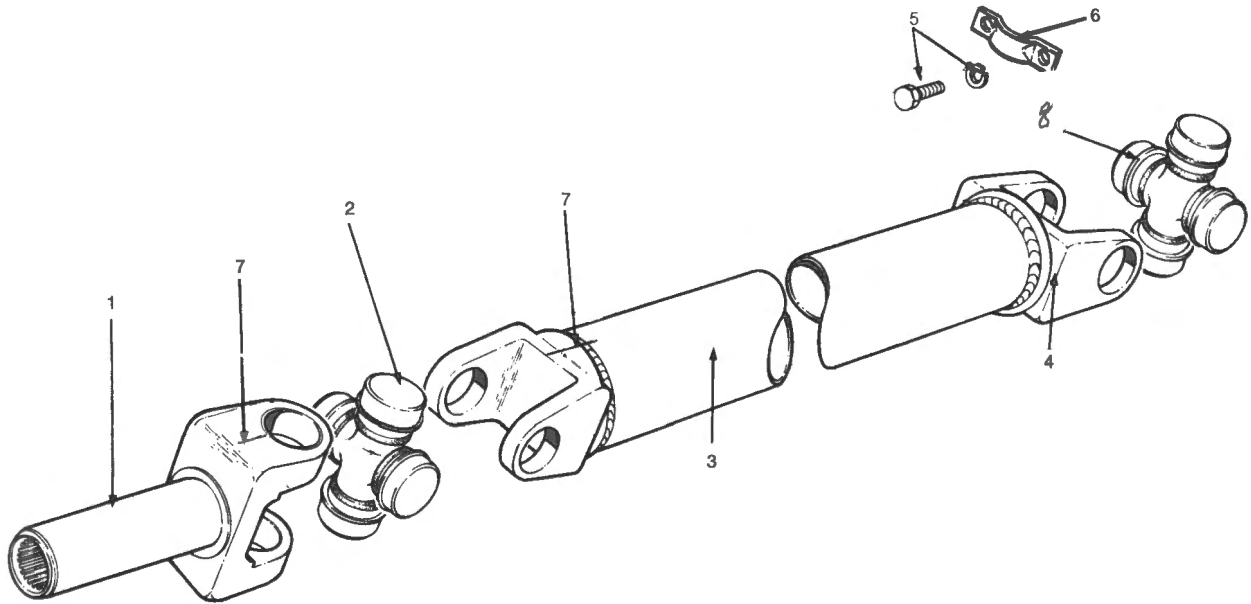

Fig. N-1
A splined yoke at the front sides on the transmission mainshaft to compensate for the varying length produced by the up and down movement of the rear axle. Fig. N-1.
- 1 Straighten the lock plates securing the four bolts retaining the rear universal joint to the rear axle pinion yoke. Fig. N-1.
- 2 Mark both sliding yoke and shaft so that they may be assembled in their original position to enable the balance to be retained. Fig. N-1.